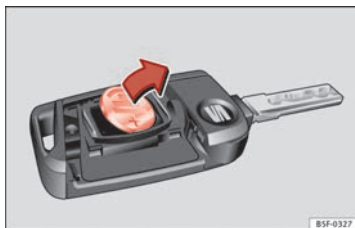

Fig. 49 Vehicle key: removing the battery
- Extract the battery from the compartment using a suitable thin object ⇒ Fig. 49.
- Place the new battery in the compartment as shown ⇒ Fig. 49, pressing in the opposite direction to that shown by the arrow ⇒ ②.